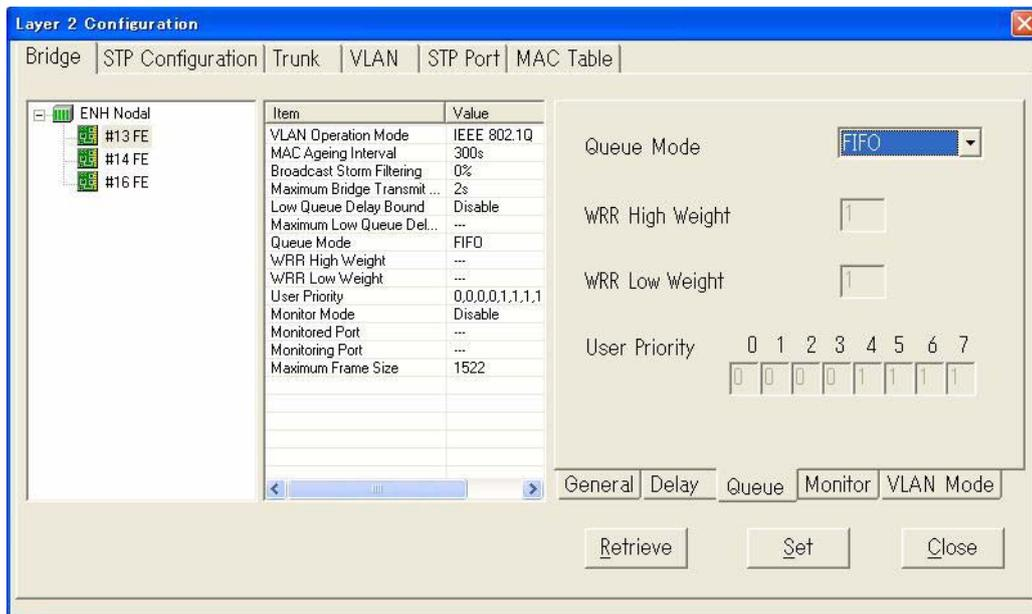

Fig. 4-4-45 FIFO Selection (FE Card)
- i When **FIFO** is selected, the order of queue ingress and egress is FIFO (first in first out), namely ignoring queue priority. The window is shown in *Fig. 4-4-45*.